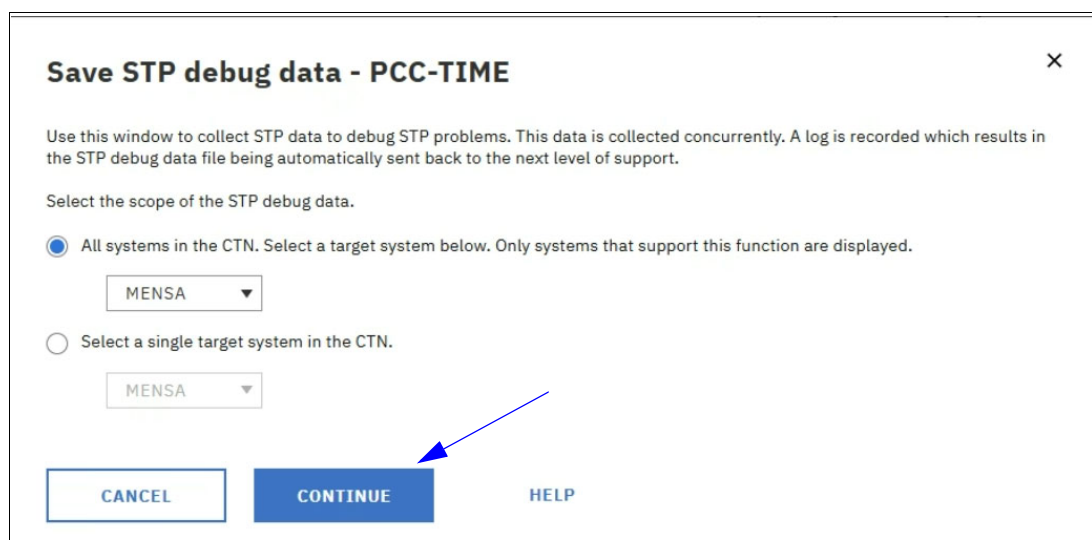

Figure 5-15 Start Save STP debug data menu
- From the Save STP debug data panel, select all systems with a target system or a single system (Figure 5-15).